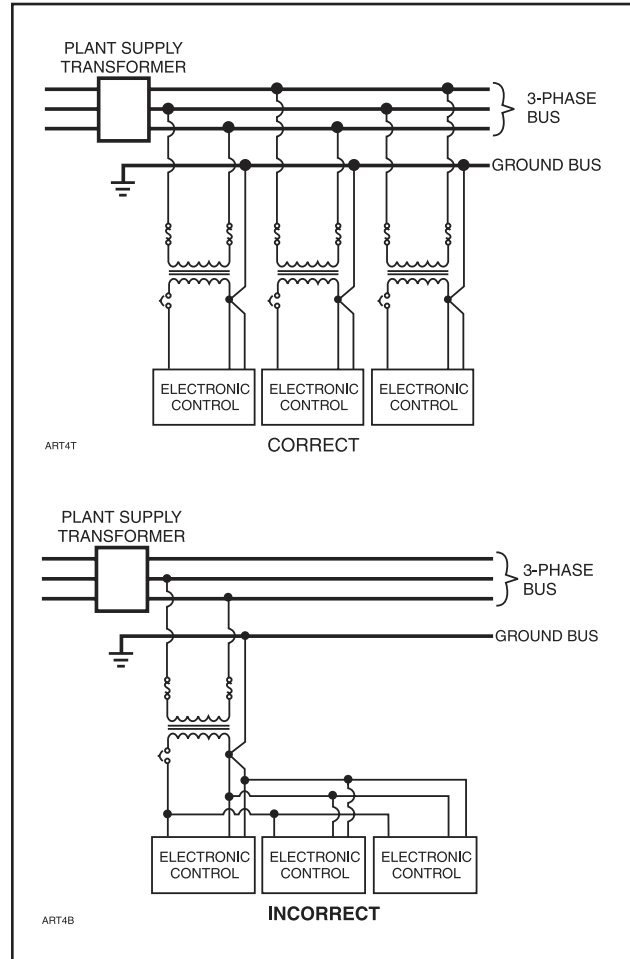

Figure 31
**Never daisy-chain or parallel-connect power or ground wires to electronic control panels.** Each electronic control panel must have its own supply wires back to the power source. Multiple electronic control panels on the same power wires create current surges in the supply wires which can cause controller malfunctions. Daisy-chaining ground wires allows ground loop currents to flow between electronic control panels which also causes malfunctions. See Figure 31.